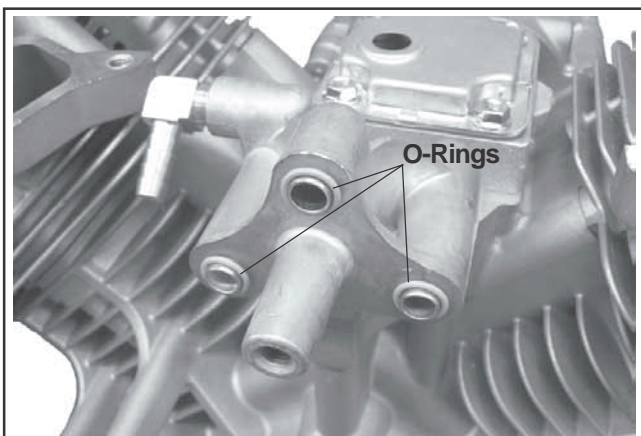

Figure 10-69. O-Rings Installed on Adapter for Oil Filter Housing.
1. Make sure all sealing surfaces are clean and all three dowel pins are in position. Install or check that new O-Rings are around all three dowel pins of the oil filter adapter. See Figure 10-69.